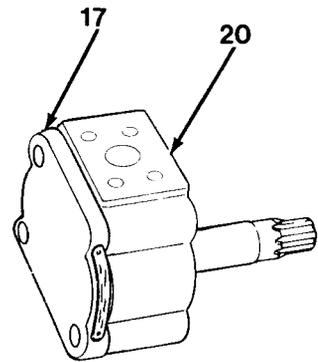

Figure 16-16
9. Install port end cover (17) on gear housing (20, Figure 16-16) as matchmarked during disassembly.